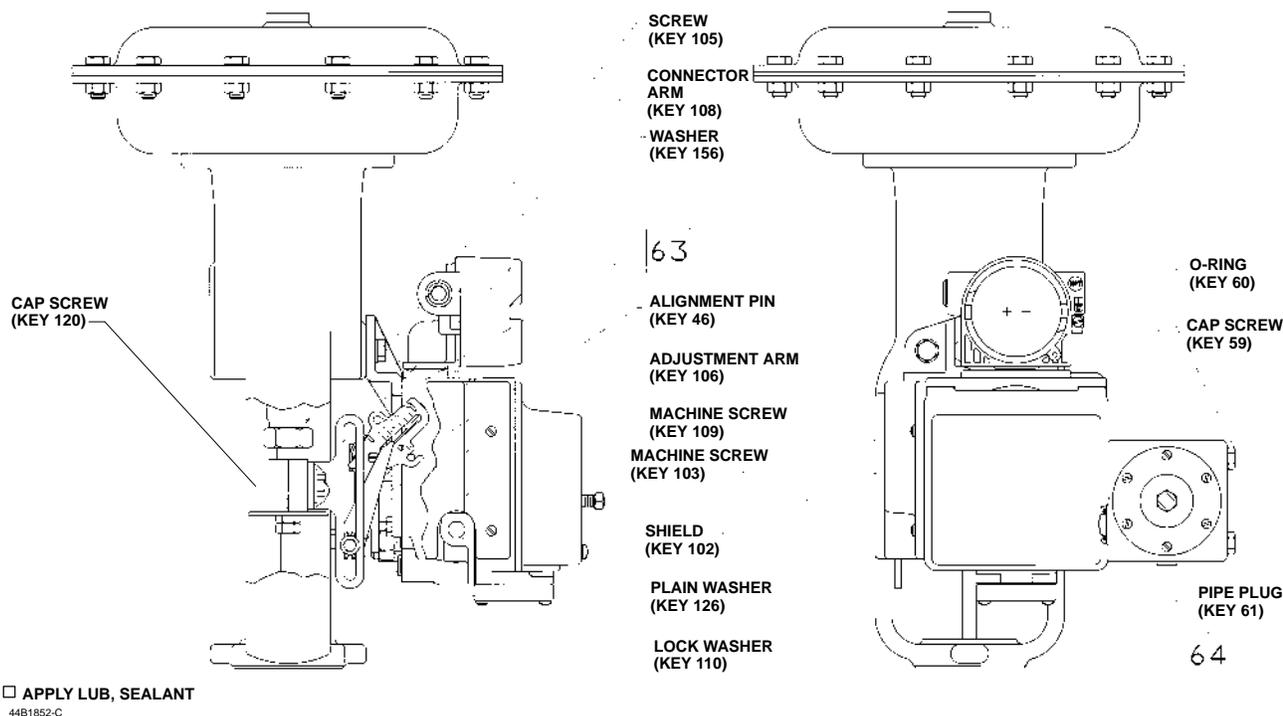
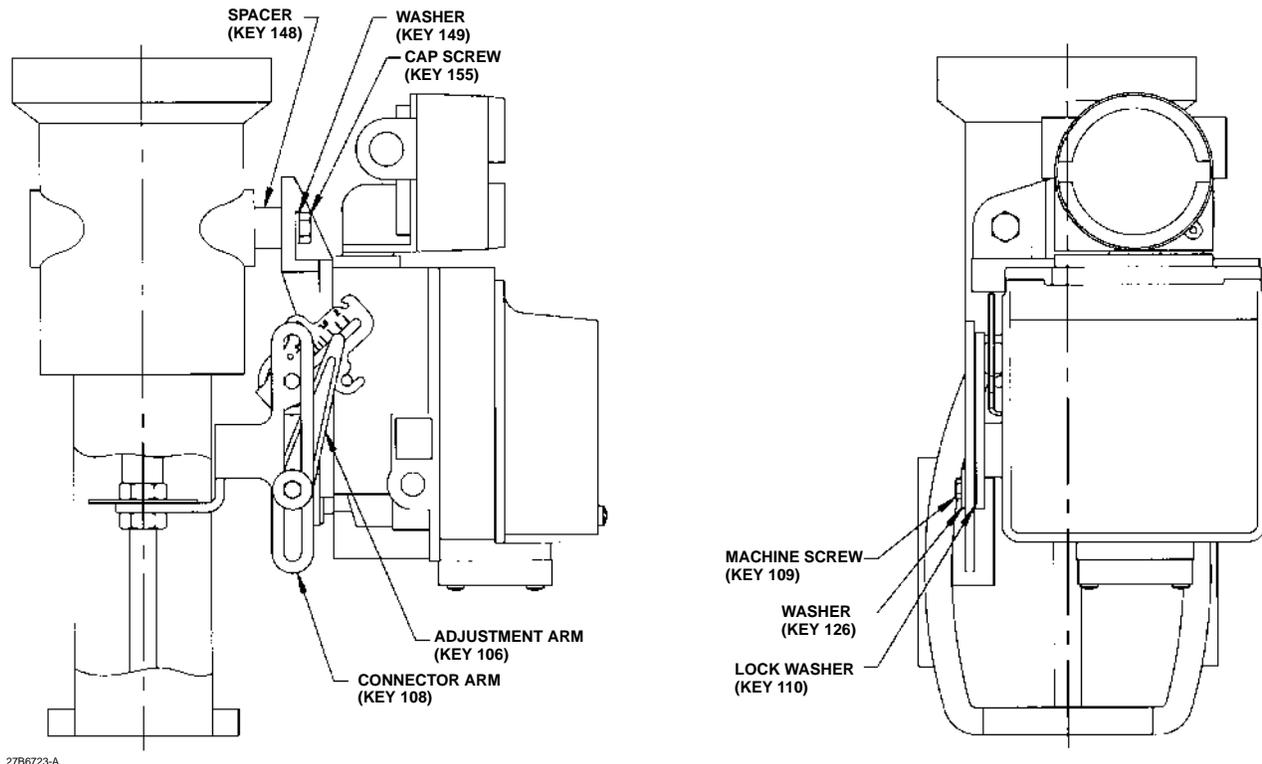

Figure 1. Type DVC5010 or DVC6010 Digital Valve Controller with Integrally Mounted Filter Regulator Yoke-Mounted on Type 657/667 Size 30-60 Actuator
Figure 2. Type DVC5010 or DVC6010 Digital Valve Controller Mounted on Type 657/667 Size 34-60 Actuator with Side-Mounted Handwheel
Refer to figures 1 and 2 for mounting parts identification. Refer to the FIELDVUE DVC5000 Series Digital Valve Controllers Instruction Manual - Form 5335 for DVC5010 digital controller parts identification, and the FIELDVUE DVC6000 Series Digital Valve Controllers Instruction Manual - Form 5647 for DVC6010 digital valve controller part identification. Refer to the appropriate actuator instruction manual for actuator installation, operation, maintenance and parts identification.
2. Attach the connector arm (key 108) to the valve stem as follows:
- On actuators without side-mounted handwheel, refer to figure 1.
a. Remove one of the stem connector screws. Insert one of the cap screws (key 120) included in the kit through the connector arm (key 108) and start it in the stem connector. Tighten the screw so that the stem connector clamps the valve and actuator stems but still permits the connector arm to be moved.
b. Remove the second stem connector screw. Swing the connector arm into place and start the second screw (key 120) from the kit. Tighten both screws.
- On actuators with side-mounted handwheel refer to figure 2. Loosen the lock nut below the travel disc. Insert the connector arm beneath the travel disc and tighten the lower lock nut against the connector arm.